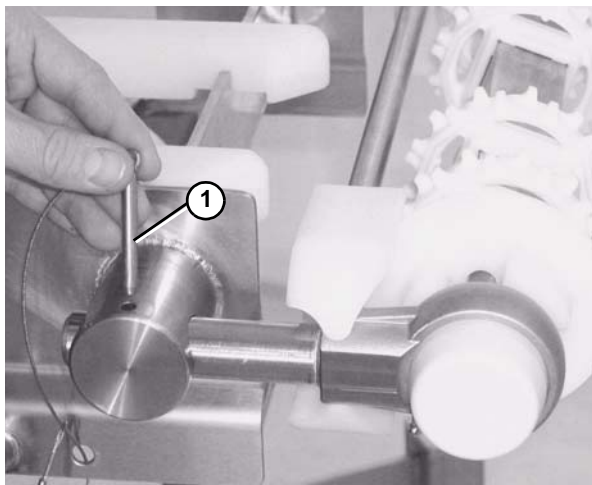

Figure 28
8. Insert the pull pins (**Figure 28, item 1**) on the tension end of the conveyor.